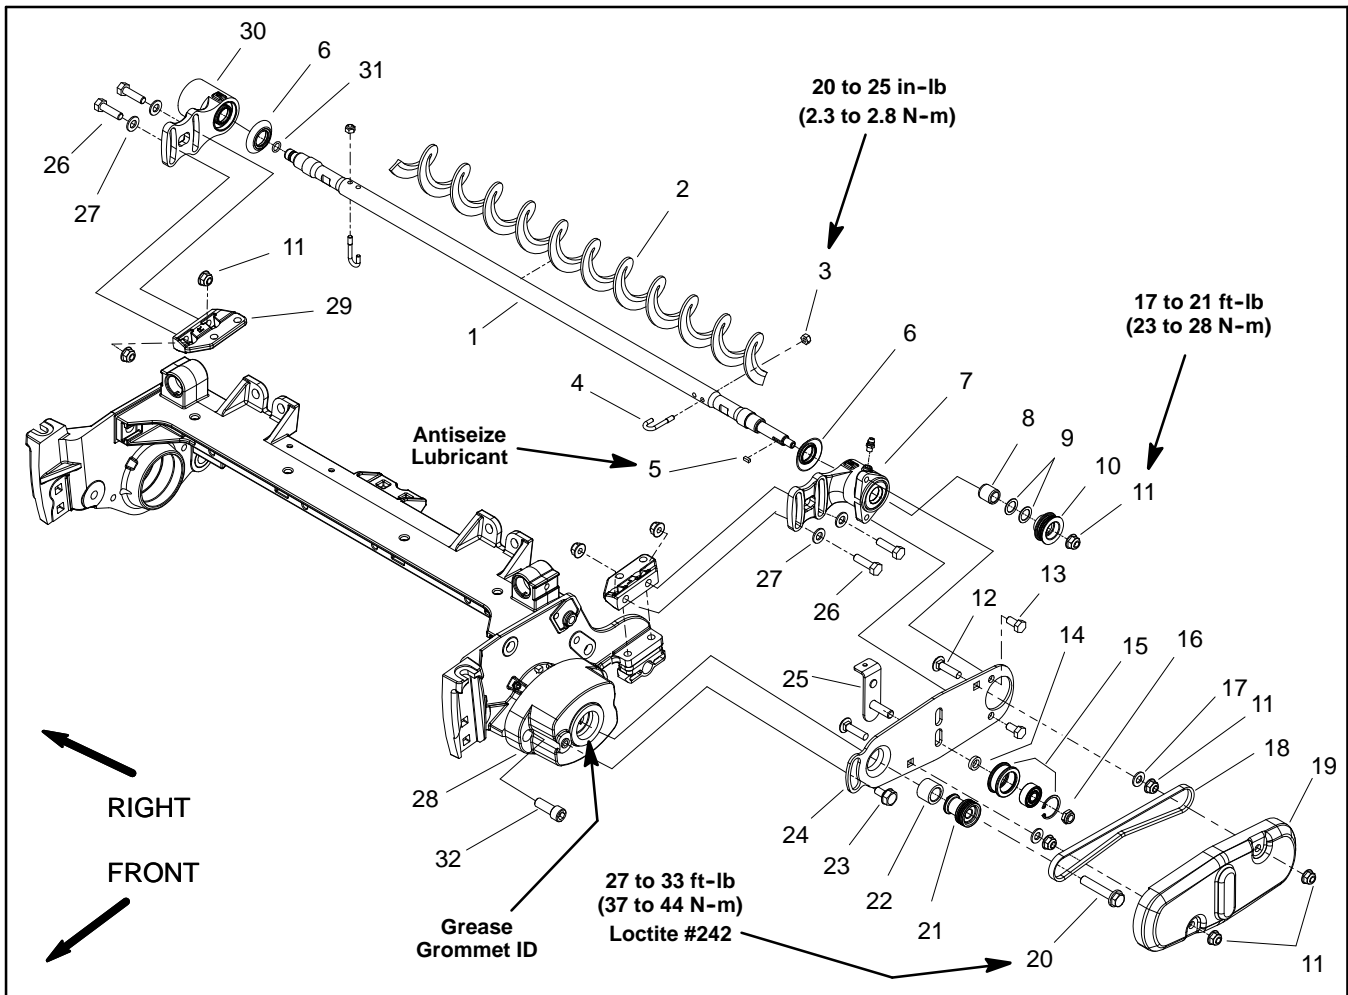
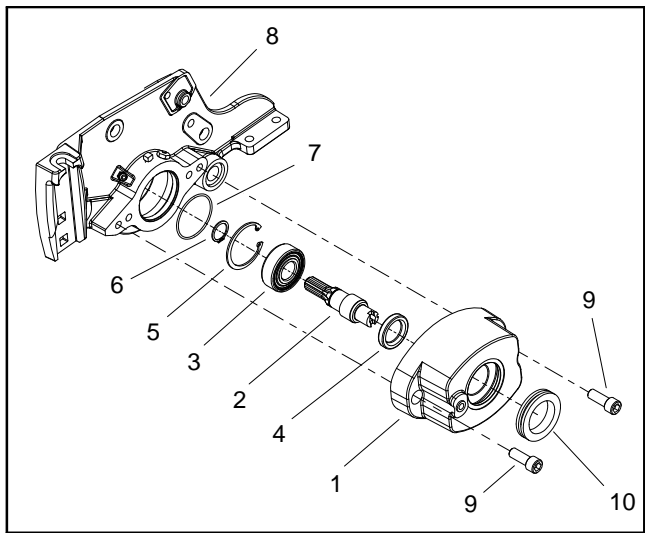
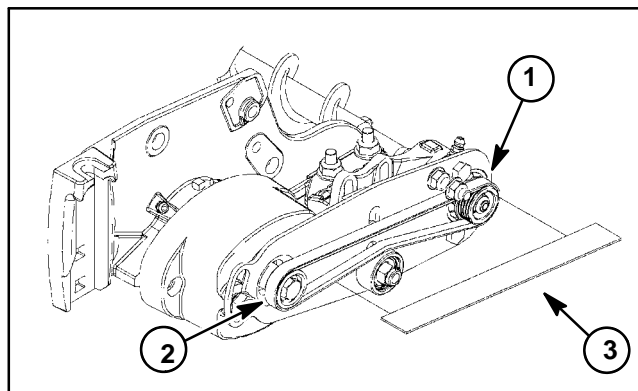

Figure 40
Figure 43
Figure 45
NOTE: Drive components for the rear roller brush are located on the opposite side of the cutting unit from the cutting reel hydraulic motor. Figure 40 shows components used when the brush drive is on the left side of the cutting unit.
Disassembly (Fig. 40)
- A. Remove the non-drive brush bearing housing (item 30) from cutting unit.
3. Disassemble roller brush components as necessary using Figures 40 as a guide.
Assembly (Fig. 40)
3. If drive bearing housing was disassembled, install new components noting proper orientation as shown in Figures 43 and 44.
A. Install bearing on shaft by pressing equally on the inner and outer bearing races. Install the bearing so that the bearing seal is closest to the shoulder on the shaft. Install snap ring (item 6) onto shaft to retain bearing.
D. Carefully slide shaft and bearing fully into pivot hub bore taking care to not damage the grease seal. Install retaining ring (item 5) to secure bearing in pivot hub.
4. Assemble roller brush components using Figure 40 as a guide.
B. Apply Loctite #242 (or equivalent) to threads of flange head screw (item 20) that secures drive pulley to drive shaft.
C. Torque flange head screw (item 20) that secures drive pulley to drive shaft from **27 to 33 ft-lb (37 to 44 N-m)**.
E. Torque flange nut (item 11) that secures driven pulley to roller brush shaft from **17 to 21 ft-lb (23 to 28 N-m)**.
F. Check alignment of pulleys with a straight edge placed along the outer face of the driven pulley (Fig. 45). The outer faces of the driven and drive pulleys (not the idler pulley) should be in line within 0.030" (.76 mm). If necessary to align pulleys, remove driven pulley from brush shaft and add or remove washer(s) (item 9) until drive and driven pulleys are aligned.